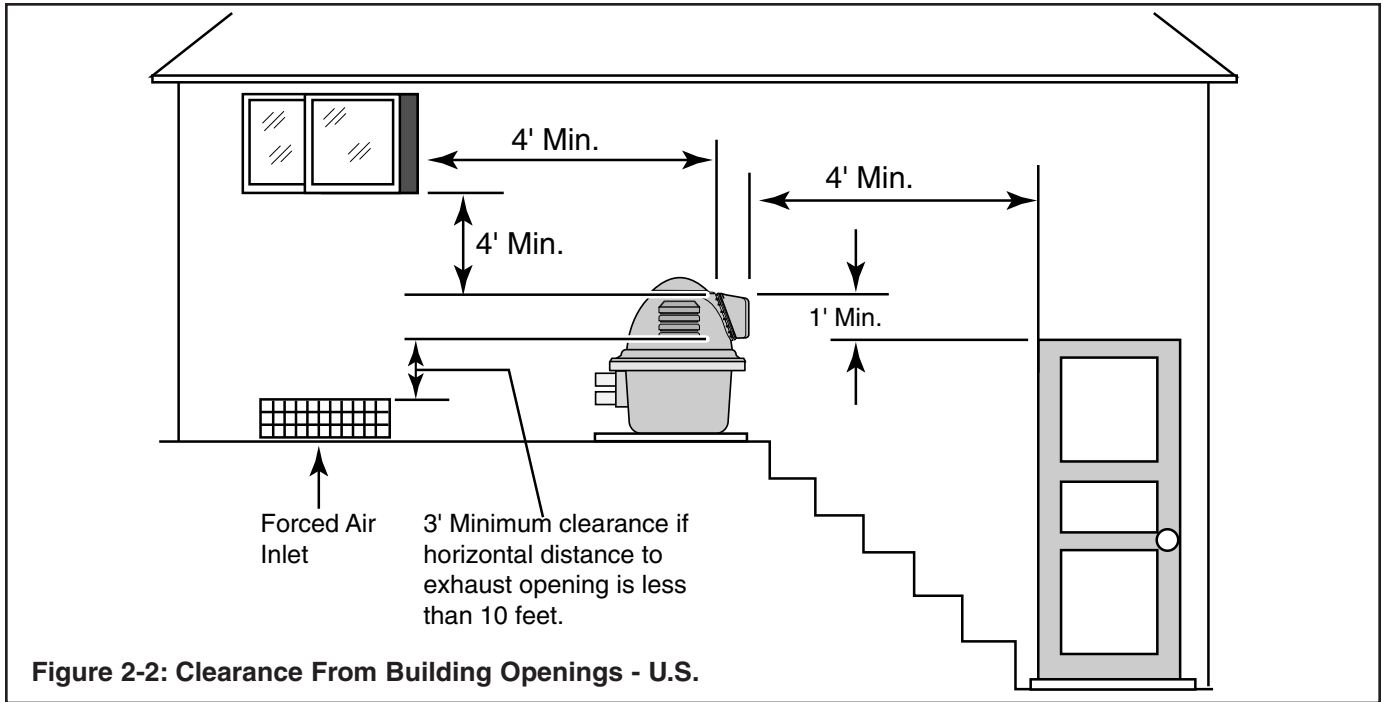

Figure 2-2: Clearance From Building Openings - U.S.
U.S.: The vent terminal opening must be located further than four (4) feet below, four (4) feet horizontally, and one (1) foot above any door, window, or gravity inlet to a building. The vent terminal opening must be further than three (3) feet above any forced air inlet located within ten (10) feet horizontally. The exhaust from the heater may cause discoloration of painted surfaces in close proximity (see Figure 2-2).